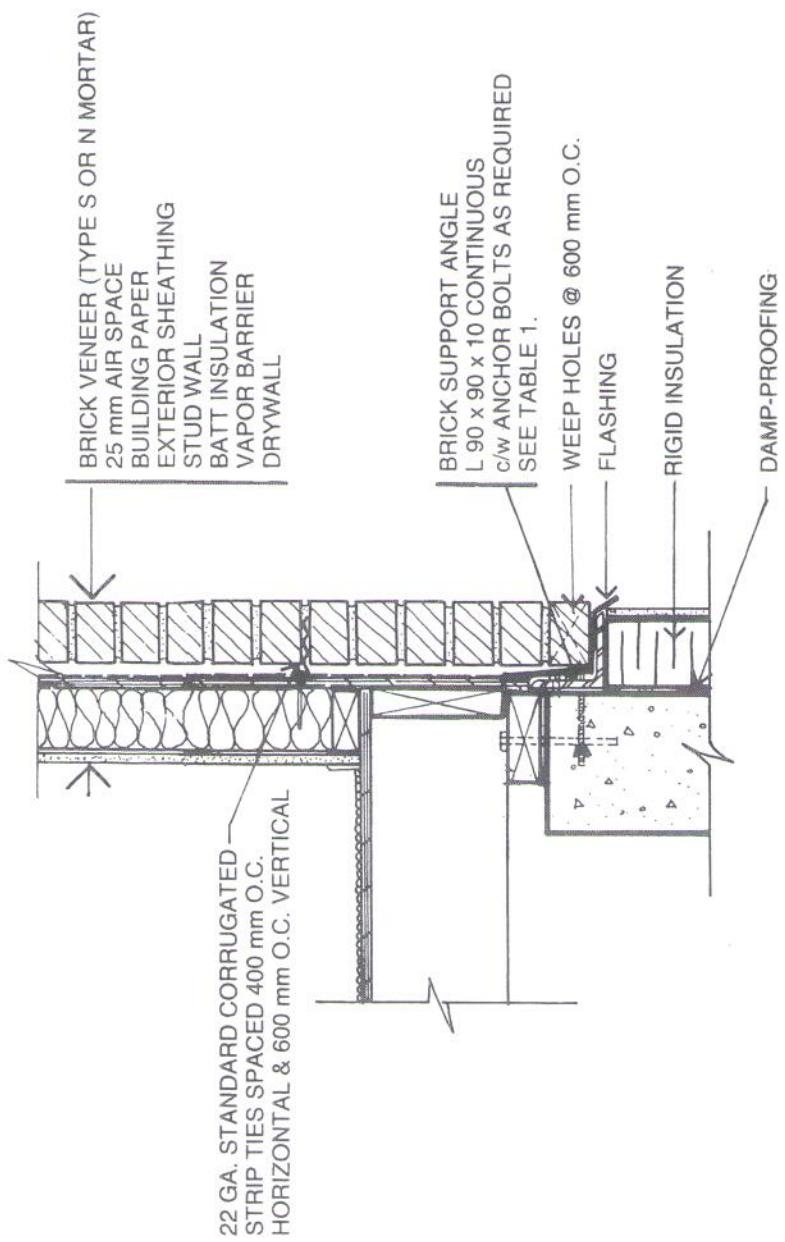

Figure 10 Typical steel shelf angle brick support
- Figure 10 Typical steel shelf angle brick support